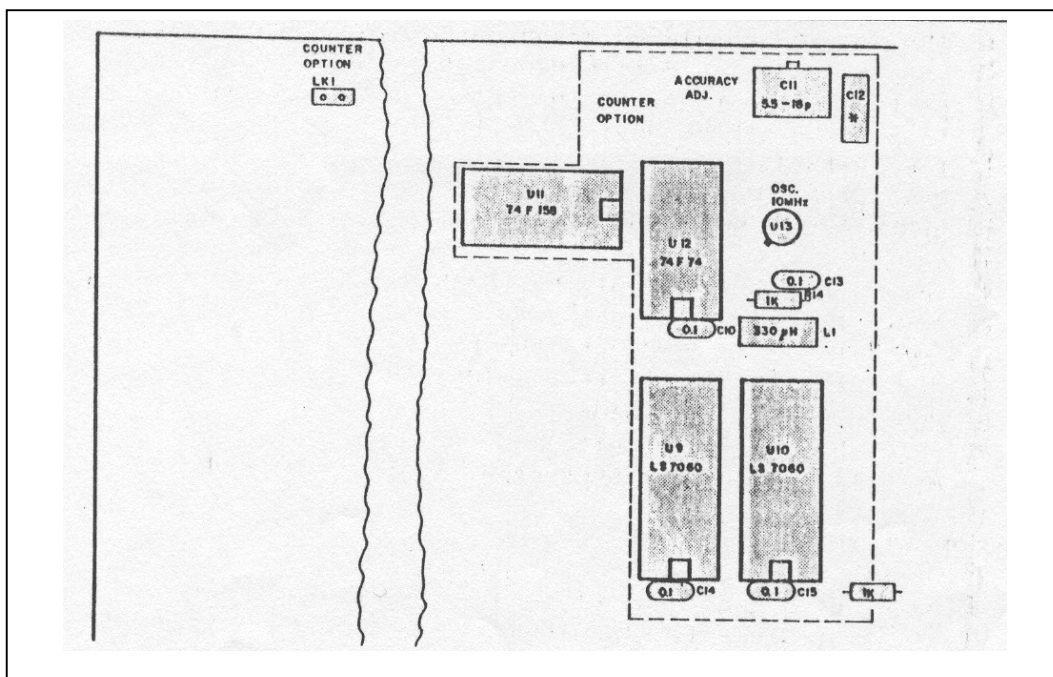

Figure 5-2. Counter Option Installation
4. Assemble the supplied components: U9, U10, U11, U12, U13 and LK1 as shown in Figure 5-2. Note that all components can be plugged into sockets except U13 which has to be soldered to the board. Before soldering this IC observe that U13 is mounted correctly as printed on the board.